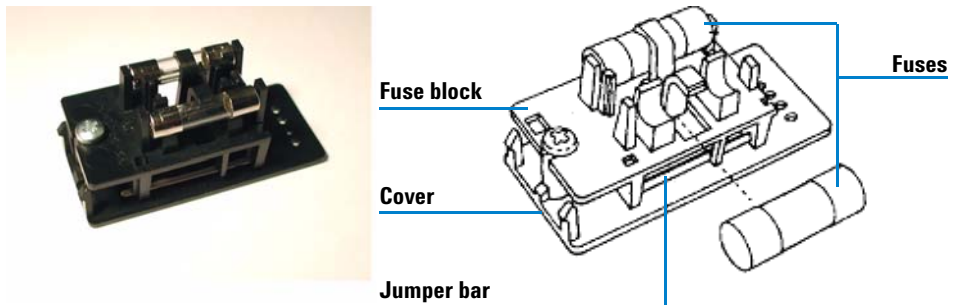

Figure 18 Fuse-block assembly
- 10 Slide the fuse block back into position and tighten the screw. Make sure that the active fuse(s) face(s) out, see Figure 18.